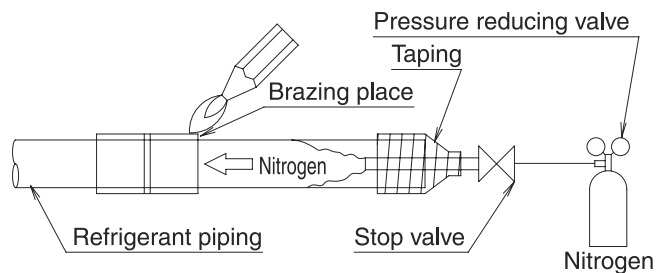

Fig. 13
- Before brazing refrigerant piping, have nitrogen flow through the refrigerant piping and substitute air with nitrogen (NOTE 2) (Refer to Fig. 13). Then, carry out brazing (NOTE 3).